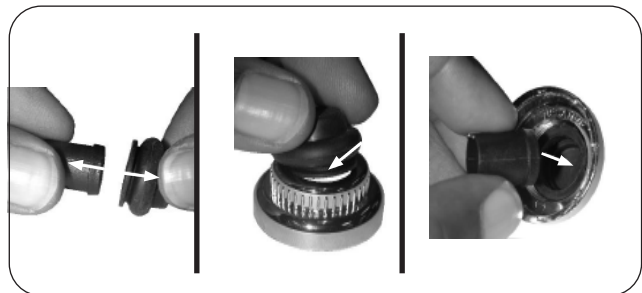

Fig. 36-3 Rubber cap replacement
3. Turn the cap over and slide the inner plastic sleeve into the cap. See Fig. 36-3.